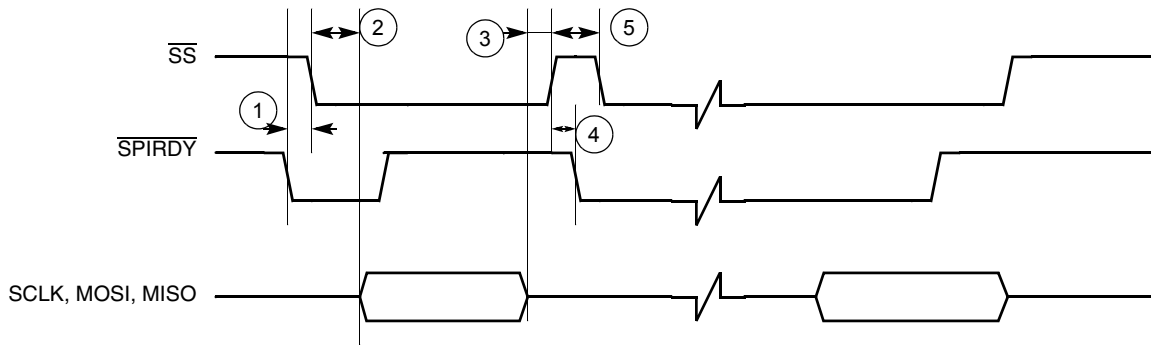

Figure 34. Master SPI Timing Diagram Using $\overline{\text{SPI_RDY}}$ Edge Trigger
To use the internal transmit (TX) and receive (RX) data FIFOs when the SPI 1 module is configured as a master, two control signals are used for data transfer rate control: the \overline{SS} signal (output) and the $\overline{SPI_RDY}$ signal (input). The SPI1 Sample Period Control Register (PERIODREG1) and the SPI2 Sample Period Control Register (PERIODREG2) can also be programmed to a fixed data transfer rate for either SPI 1 or SPI 2. When the SPI 1 module is configured as a slave, the user can configure the SPI1 Control Register (CONTROLREG1) to match the external SPI master’s timing. In this configuration, \overline{SS} becomes an input signal, and is used to latch data into or load data out to the internal data shift registers, as well as to increment the data FIFO. Figure 34 through Figure 38 show the timing relationship of the master SPI using different triggering mechanisms.
Table 18. Timing Parameter Table for Figure 34 through Figure 38